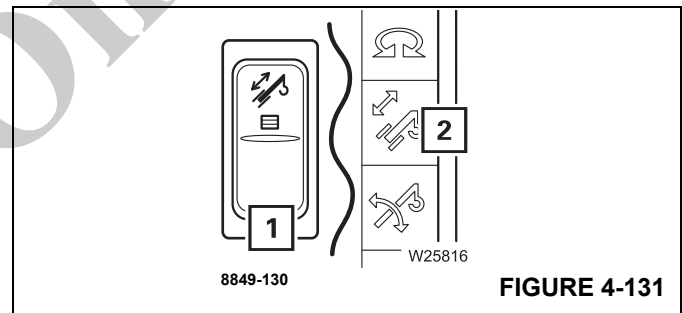

FIGURE 4-131
- Press the button (1), (Figure 4-131) once.
- The lamp in the button (1), (Figure 4-131) will light up dimly.
- The symbol (2), (Figure 4-131) is red if the telescoping mechanism is switched OFF.